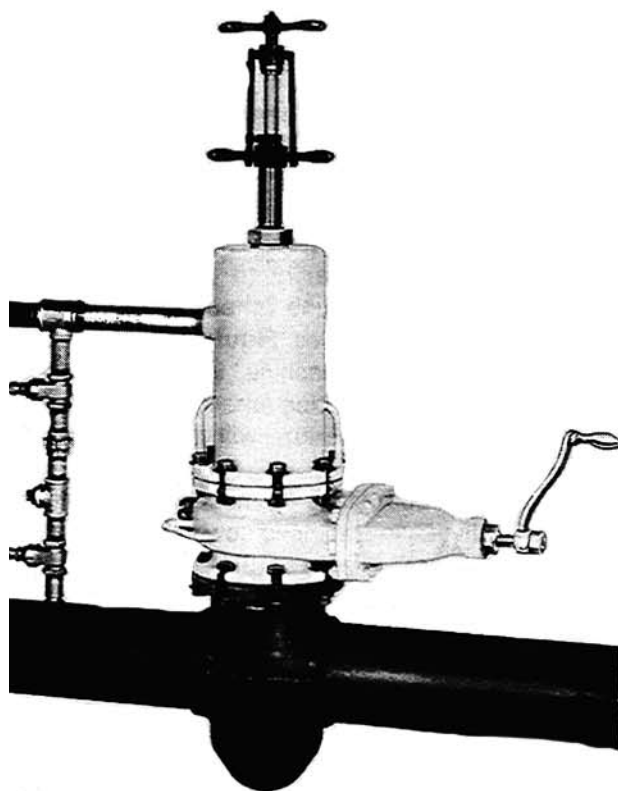

FIGURE 21
- Hold inserting bar in this position by placing yoke of the machine in the collar of the inserting bar and securing with pin. **Figure 21.** Do not rotate inserting bar.